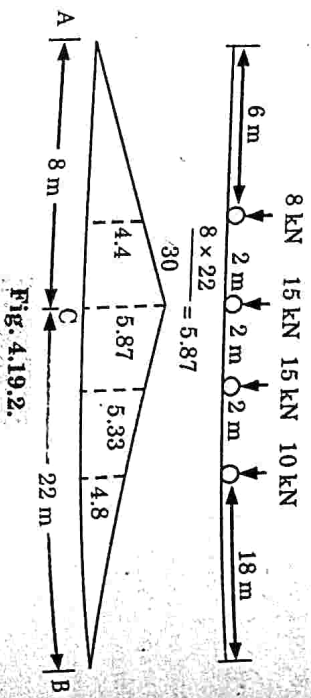

Fig. 4.19.2.
- ILD for the maximum bending moment at the section C as shown Fig. 4.19.2.